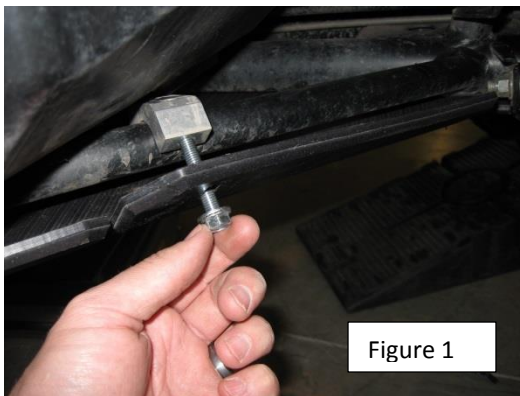

Figure 1
Locate the following hardware (2) M8 X 55mm hex head bolts, (2) M8 X 40mm flat allen head bolts, (2) M8 flat washers, (2) billet tube clamps. This step can be difficult if not performed in the correct order. Start on the passenger side of the RZR. Turn the wheel all the way to the left, or take wheel off to allow room to reach where the billet clamp installs. With the skid still hanging down a little, Start one M8 X 55mm bolt (with washer) through the slotted hole on front lip, and into the billet tube clamp. **(figure 1)** Just thread in a little, (a few full turns).